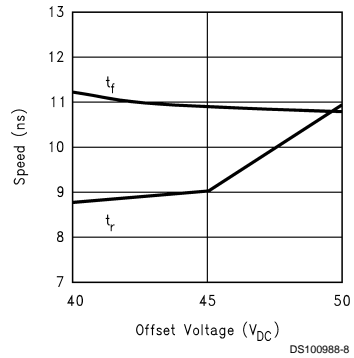

FIGURE 7. Speed vs Offset
*Figure 7* shows the variation in rise and fall times when the output offset of the device is varied from  $40 V_{DC}$  to  $50 V_{DC}$ . The rise time shows a maximum variation relative to the center data point ( $45 V_{DC}$ ) of about 21%. The fall time shows a variation of about 3% relative to the center data point.